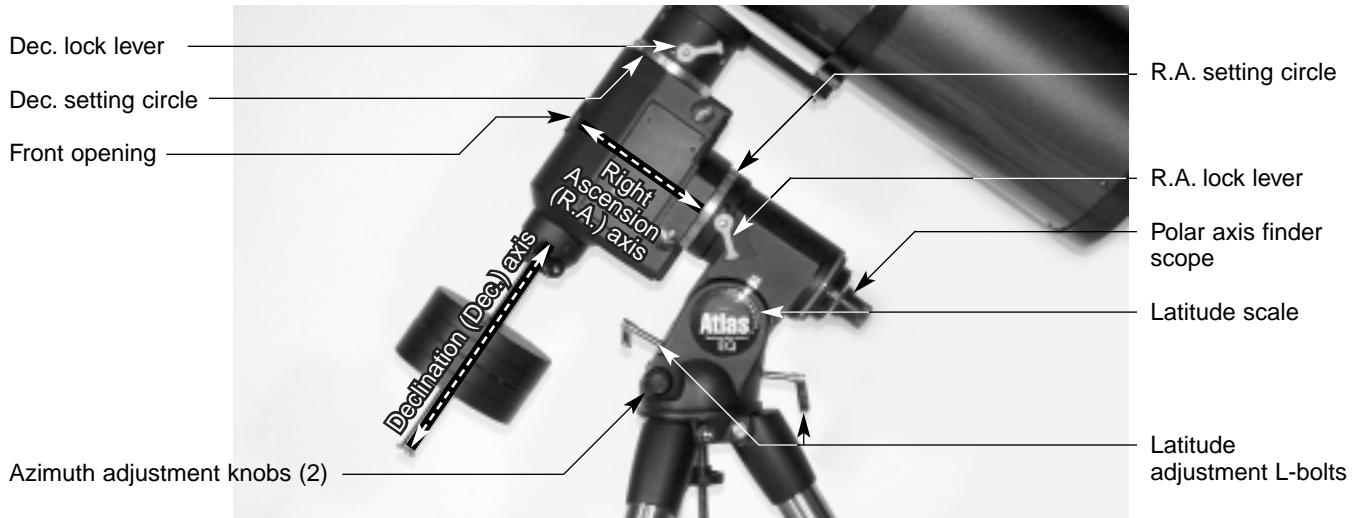

Figure 4. The Atlas EQ Mount.
When you look at the night sky, you no doubt have noticed that the stars appear to move slowly from east to west over time. That apparent motion is caused by the Earth's rotation (from west to east). An equatorial mount (Figure 4) is designed to compensate for that motion, allowing you to easily "track" the movement of astronomical objects, thereby keeping them from drifting out of your telescope's field of view while you're observing.
2. There are two latitude adjustment L-bolts (see Figure 4); loosen one while tightening the other. By doing this you will adjust the latitude of the mount. Continue adjusting the mount until the pointer on the latitude scale is set at the latitude of your observing site. If you don't know your latitude, consult a geographical atlas to find it. For example, if your latitude is 35° North, set the pointer to 35. The latitude setting should not have to be adjusted again unless you move to a different viewing location some distance away.
3. Loosen the Dec. lock lever and rotate the telescope's optical tube until it is parallel with the right ascension axis, as it is in Figure 4.
3. Remove the cap on the front opening of the equatorial mount (Figure 4). Focus the polar finder by rotating the